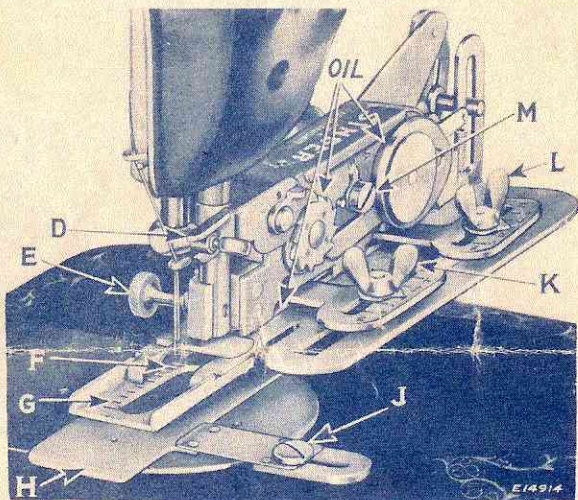

Fig. 2. Right Side, Showing Feed Cover Plate
Remove the presser foot and screw from the machine. Place the feed cover plate (H) in position as shown in Fig. 2 so that the needle passes through the center of the needle hole in the plate. Fasten with the screw (J).
The space between the stitches is determined by the position of the pointer (M, Fig. 2). For larger space turn pointer toward "L" and for smaller space toward "S".
More bight is necessary for loosely woven or thin material than for tightly woven or thick material. To change the width of bight loosen thumb nut (K, Fig. 2) and move it toward "W" for wider bight or toward "N" for narrower bight.
To change the width of the cutting space loosen the thumb nut (L, Fig. 2) and move it toward "W" for wider space or toward "N" for narrower space.
Adjust the attachment to make the longest buttonhole (one inch) that the adjustments provide. With the spacing of stitches, the bight, and the cutting space set as desired, locate the edge of the garment so that the point where the end of the buttonhole is desired is $1/4$ inch from the rear of the feeding foot, or just in front of the last mark on the foot. Lower the presser bar and turn the thumb nut (B, Fig. 1) toward you by hand, thereby moving the foot and garment, until the second graduation line (G, Fig. 2) from the front end of the feeding foot is beside the needle when the foot is traveling toward you. The stitching should now be started, continued around the first turn of the buttonhole, and stopped when opposite the starting point (G), **ALLOWING THE NEEDLE TO REMAIN IN THE MATERIAL**. Raise the presser bar, turn the thumb nut (B) toward you by hand so that the feeding foot travels over the stitching just completed, and stop turning when the second graduation line from rear of feeding foot (F, Fig. 2) is opposite the needle and the foot has started away from you. This will make a buttonhole of maximum length ($1-7/8$ inches). If a shorter buttonhole is desired, the foot should be moved further back before stopping it, so that the needle is opposite one of the other marks (between F and G). Each mark stamped on the foot represents $1/8$ inch of length of the buttonhole. Now lower the presser bar and continue stitching until joining with the first stitches previously made.